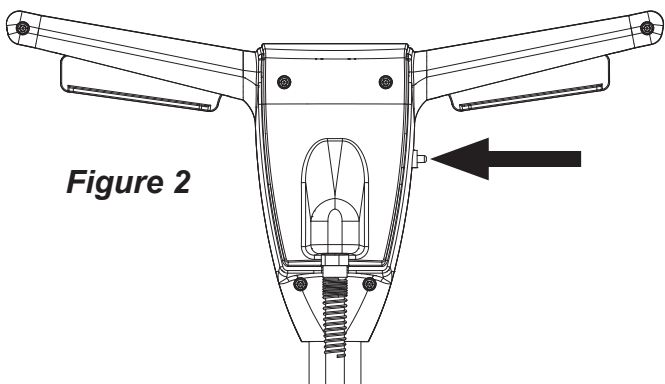

Figure 2
**Interlock Switch** (see Figure 2).